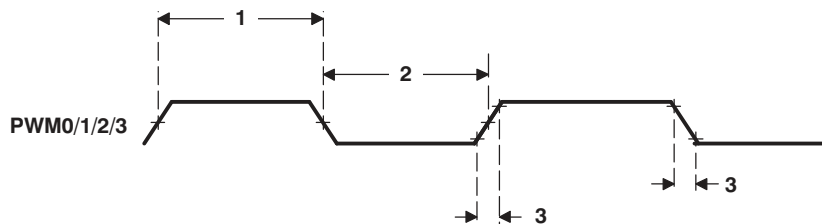
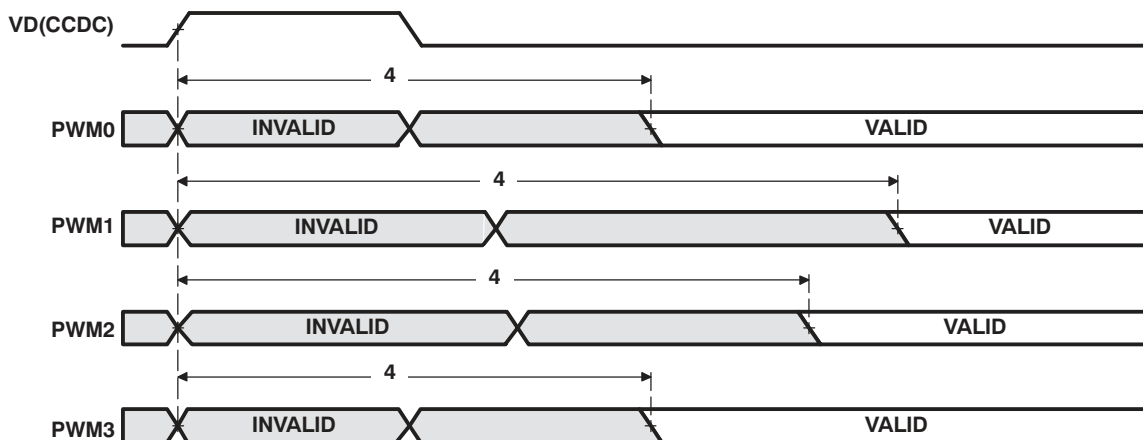

Figure 6-55. PWM Output Timing
Figure 6-56. PWM Output Delay Timing
**Table 6-86. Switching Characteristics Over Recommended Operating Conditions for PWM0/1/2/3 Outputs(1) (see Figure 6-55 and Figure 6-56)**